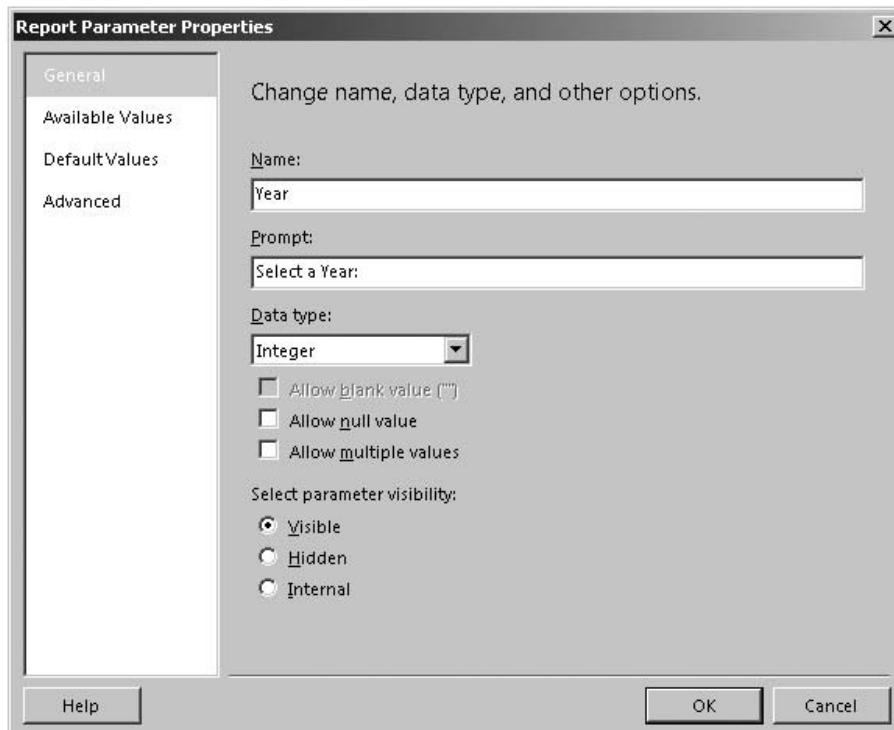

Figure 16-44 The General Page of the Report Parameter Properties dialog box
23. The Year report parameter was created to match the @Year stored procedure parameter. We can provide a more user-friendly prompt and set up the drop-down list for selecting a year. Enter **Select a Year:** for Prompt, as shown in Figure 16-44.